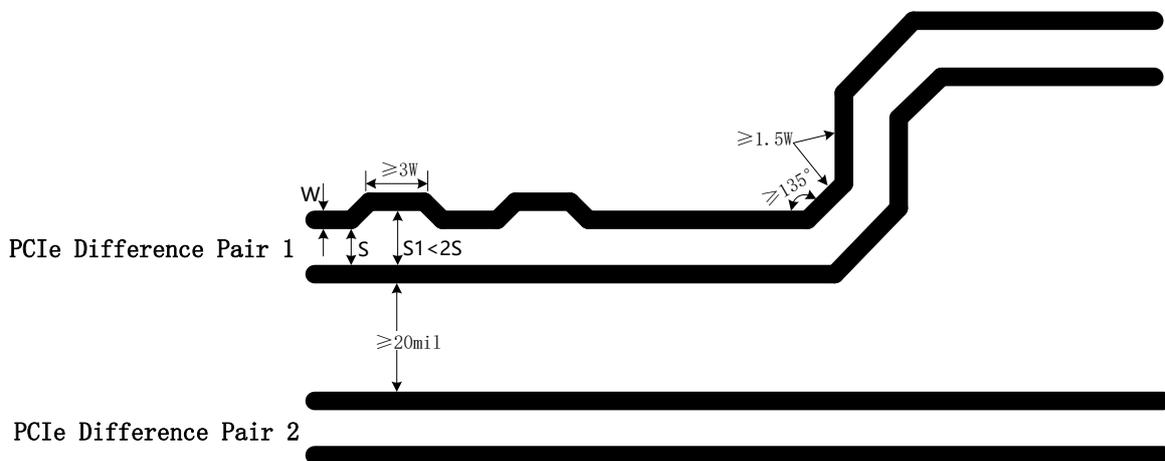

Figure 3-13 Requirement of PCIe Line
- Try to avoid bended lines and avoid introducing common-mode noise in the system, which will influence the signal integrity and EMI of difference pair. As shown in Figure 3-13, the bending angle of all lines should be equal or greater than 135°, the spacing between difference pair lines should be larger than 20mil, and the line caused by bending should be greater than 1.5 times line width at least. When a serpentine line is used for length match with another line, the bended length of each segment shall be at least 3 times the line width ($\geq 3W$). The largest spacing between the bended part of the serpentine line and another one of the differential lines must be less than 2 times the spacing of normal differential lines ($S1 < 2S$);